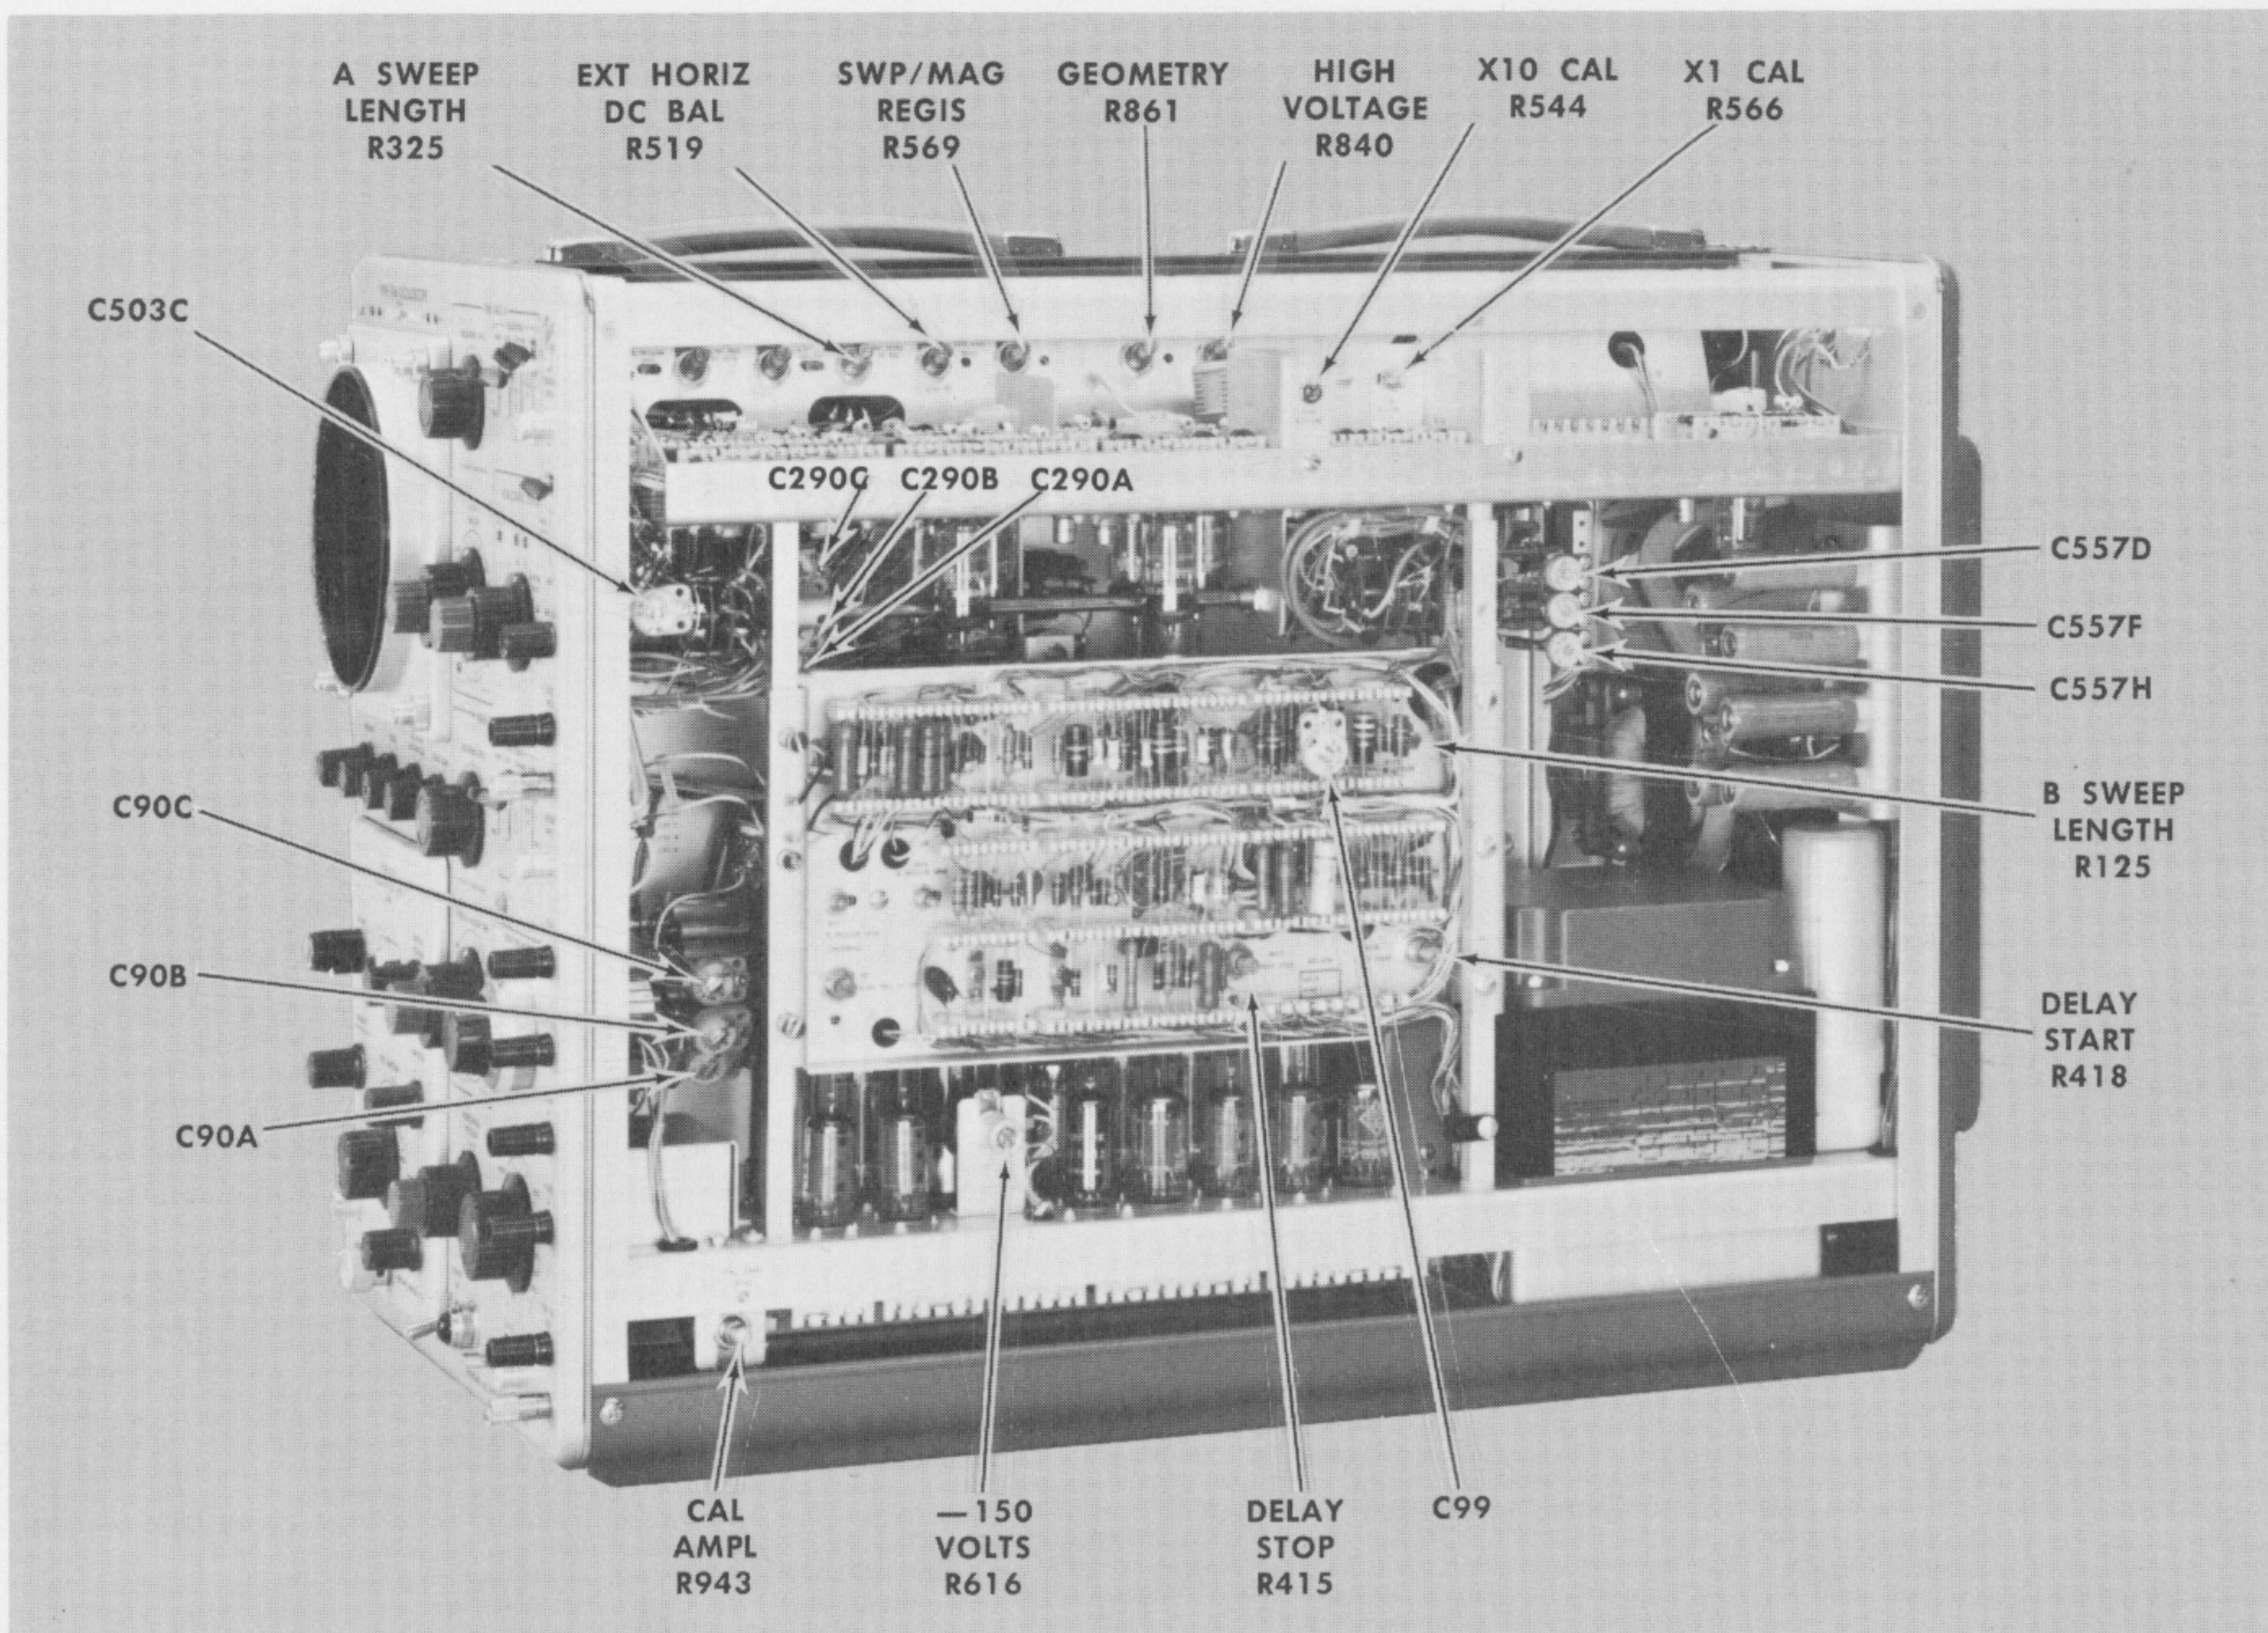

Fig. 5-2. Calibration adjustment location (right side view).
- d. If necessary, adjust to —150 VOLTS R616 control (see Fig. 5-2) so all power supply voltages are within tolerance.
- b. Adjust the HIGH VOLTAGE control R340 (see Fig. 5-2) for a —1850 volt meter indication.
- a. Connect a single binding post adapter (item 9) to the oscilloscope CAL OUT connector.
- d. Adjust the CAL AMPL control R943 (see Fig. 5-2) for a voltmeter reading of exactly 100 volts.
- g. Adjust the GEOMETRY control R861 (see Fig. 5-2) for straightest possible vertical marker-lines running parallel to the 0-cm and 10-cm graticule. Note the amount of bowing.